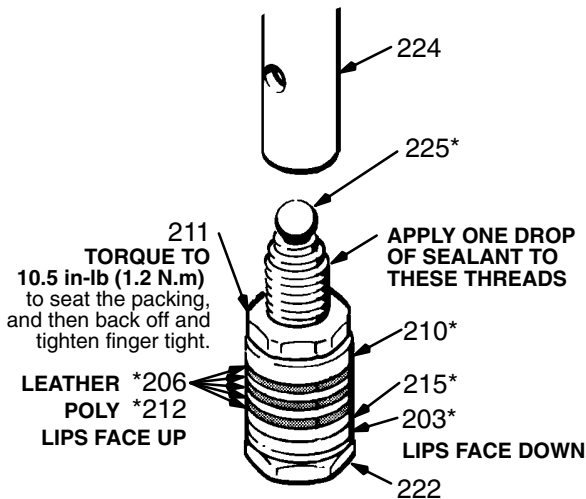

Fig 37-1
7. Clamp the flats of the piston rod in a vise. Loosen the retaining nut (211). Unscrew the piston valve (222) from the rod. Remove all parts from the piston valve (222). Refer to Fig 37-1.
NOTE: Alternate leather and plastic packings as shown in Fig 37-1. The lips of the throat "V" packings must face down, against pressure. The lips of the piston "V" packings must face up, against pressure. The lips of the U-cup seal (3) face down. Incorrect installation damages the packings and results in pump leaking.
1. Check the outside of the piston rod (224) and the inside of the sleeve (218) for scoring or scratches. If these parts are damaged, new packings will not seal properly. Replace these parts if needed.
2. Stack the backup washer (214), seal (203*), female gland (215*), alternate the packings (212*, 206*), and then male gland (210*) onto the piston valve (222). Refer to Fig 37-1.
- Place the ball (225) on the piston valve (222). Refer to Fig 37-1.
- Apply one drop of adhesive, supplied, to the threads of the piston valve. Then hand tighten the valve assembly into the piston rod just until the nut (211) contacts the rod. Refer to Fig 37-1.